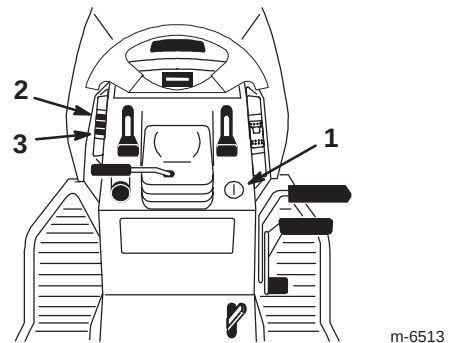

Figure 18
Use the attachment power lift (Fig. 18) to raise and lower the blade.
1. Turn key to the **On** or **Run** position (Fig. 18).
2. Push the lift switch in the **Up** direction to raise the attachment lift (Fig. 18).
2. Push the lift switch in the down direction to lower the attachment lift (Fig. 18).